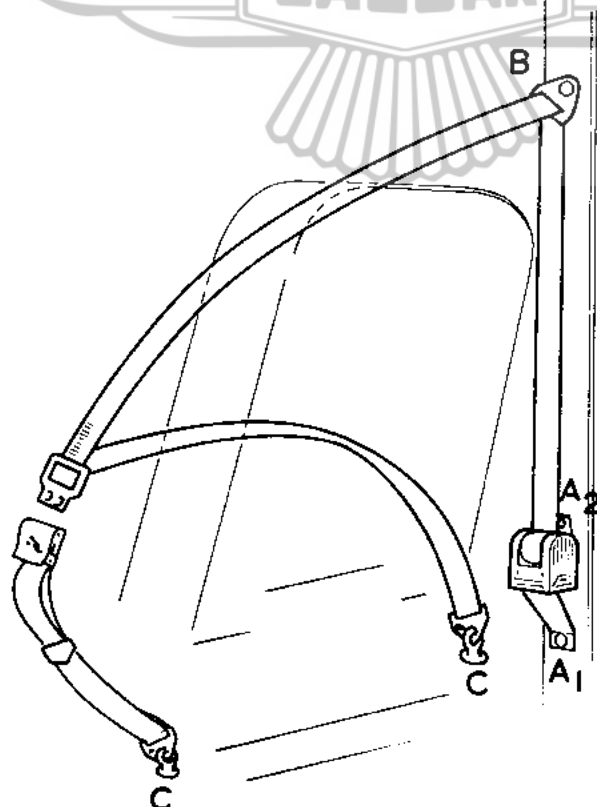
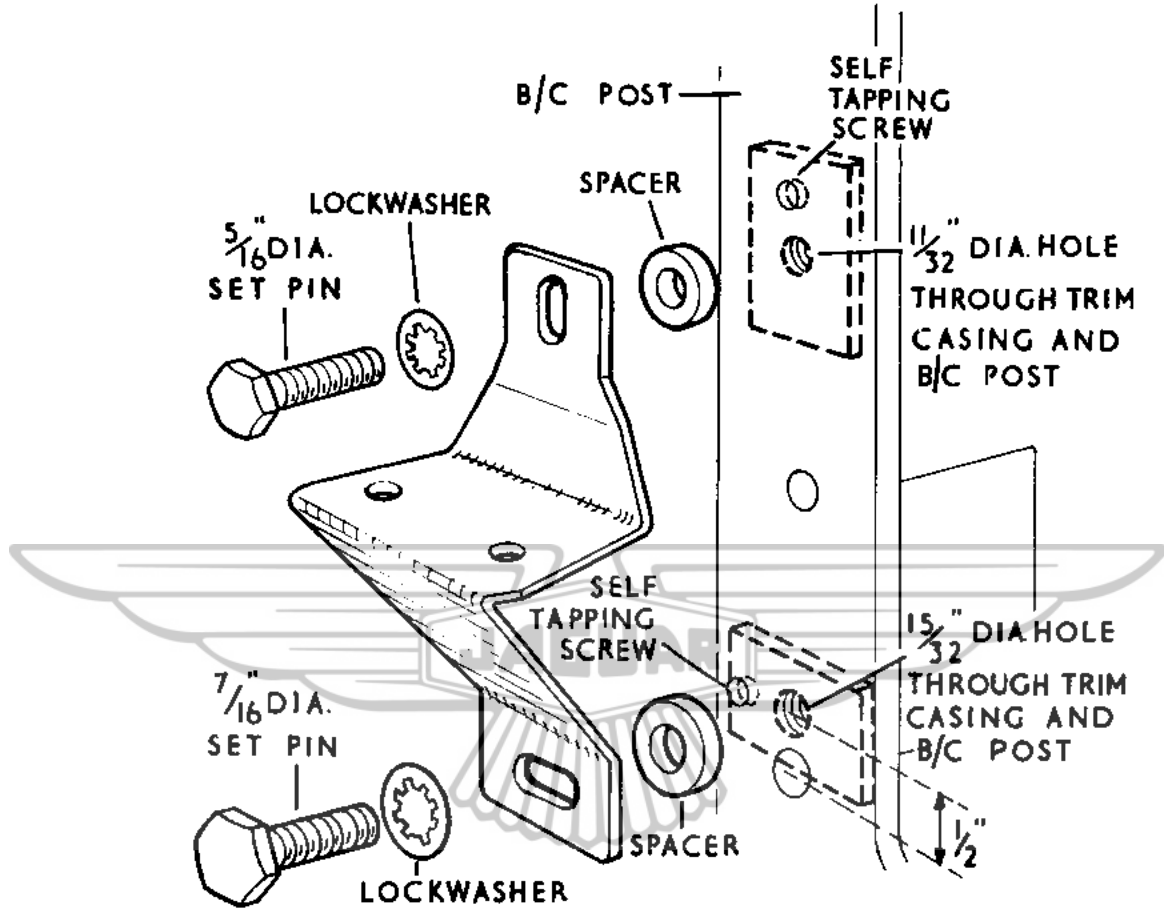

FIG. 1 THE SEAT BELT FITTED
FIG.2 MOUNTING POINTS A₁ & A₂
- (9) Attach the reel to the bracket with the two 5/16" setscrews, nuts and lockwashers. Note that the unit must be fitted so that the strap unreels against the back of the bracket. Attach the mounting bracket to the 'B/C' Post with the 5/16" and 7/16" setscrews, plain and lockwashers; the two distance pieces supplied in the kit should be interposed between the bracket and the trimming (Fig. 2). Tighten the setscrews fully.
- (10) Place the wavy washer on the small diameter of the mounting bush supplied in the kit and insert the bush into the hole in the strap top anchor plate from the back. Pass the large plated setscrew with plain washer through the plate and bush.
- (11) Fit the bush in the hole in the wood capping and fully tighten the setscrew into the tapped boss on the pillar.
- (12) Slide the seat forward and withdraw the two black plastic plugs from the floor between the seat runners. Insert the two eyebolts and tighten fully.
- (13) Attach the main belt to the outer eyebolt and the short (buckle) belt to the inner eyebolt. Re-adjust the seat position. (Fig. 1, reference C).